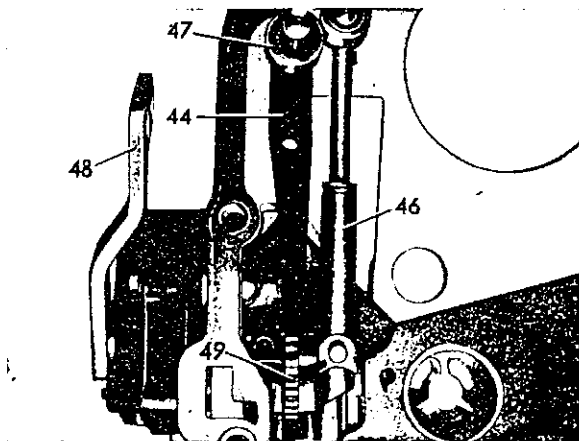

Fig. 31
6 Install arrestor wheel (49) into transmission case. Engage range selector lever (48) into the toothing of the arrestor wheel (49) and secure with clamp screw (45) Fig. 31 & 32
8 Mount needle bearing roller (47), spring-loaded rod (46) with washer and roller. Mount leaf spring (44) and bracket (43) Fig. 31 & 32 Install bearing pin for the parking lock pawl (64).